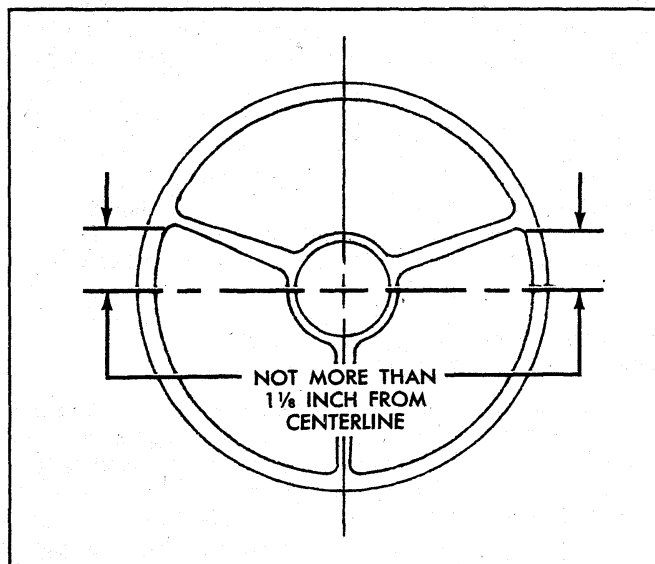

Fig. 5—Steering Wheel Alignment
5. With wheels in a straight ahead position and the steering gear on highpoint, check the steering wheel alignment by measuring the distance from each horizontal spoke to the horizontal centerline of the steering wheel (fig. 5). If the horizontal spokes are over 1-1/8 inches from the horizontal position the wheel should be removed and centered. (See steering wheel removal in this section.)